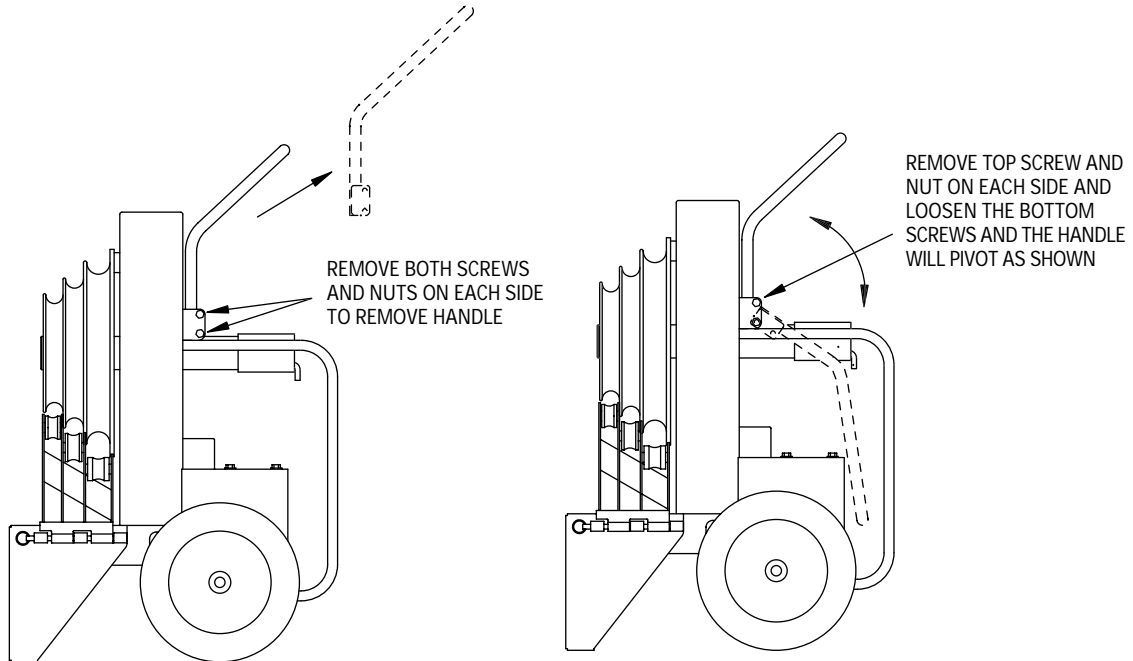

Figure 1
*The 77 Series Electric Benders have a unique feature to pivot or remove the handles during a "Dog-Leg Bend." See Figure 1 below.*